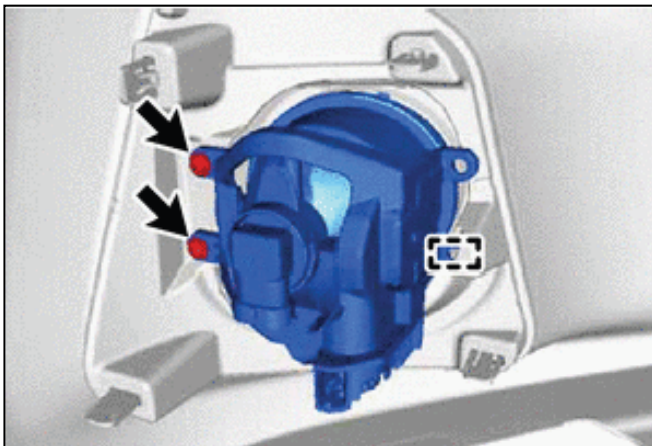

Figure 21
30. Remove driver side fog lamp, by 2 factory screws. Note: screws will be used on installation. Do not discard them. See Figure 21.